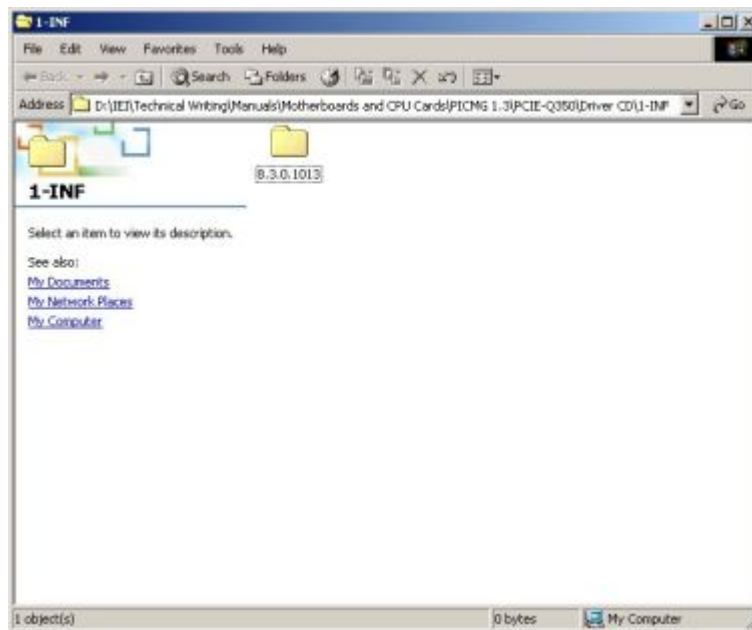

Figure 6-3: Intel® Chipset Driver Directory
Step 3: The window shown in Figure 6-3 appears.
Step 4: Click on the directory icon in Figure 6-3.